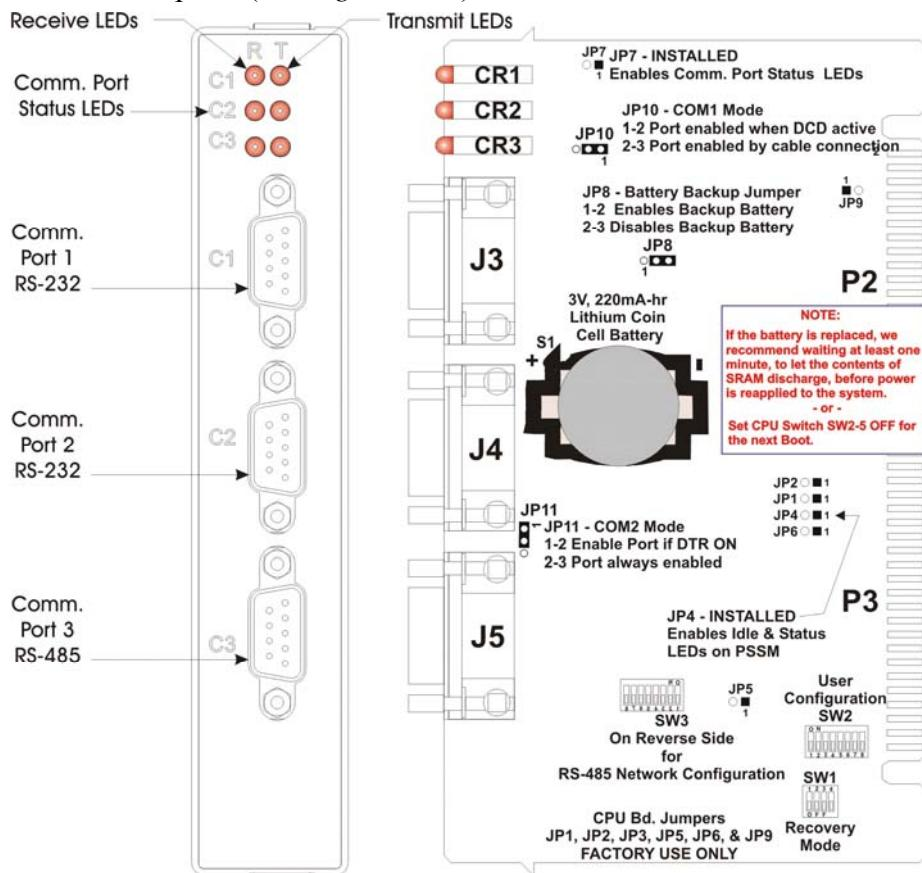
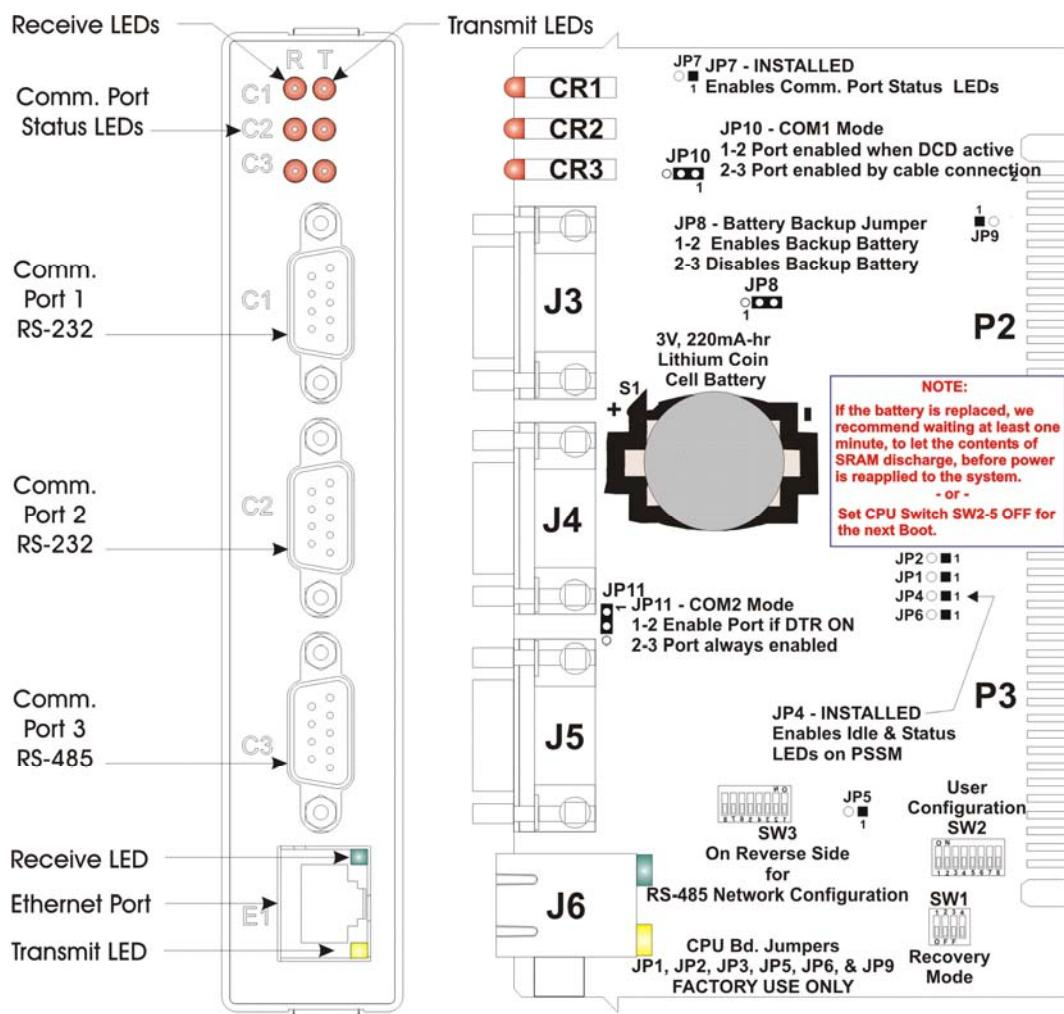
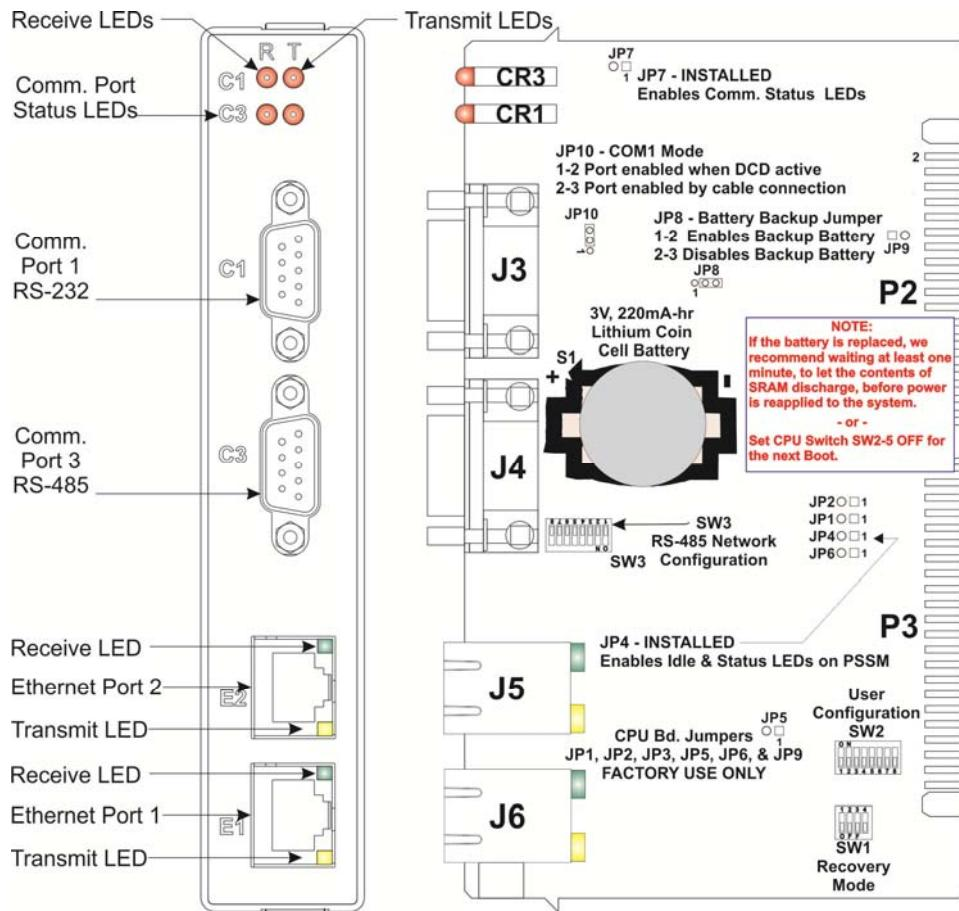

Figure 2-13. CPU Module with Three Serial Ports
Figure 2-14. CPU Module with Three Serial Ports and One Ethernet Port
Figure 2-15. CPU Module with Two Serial and Two Ethernet Ports
- CPU with two RS-232 serial ports, and one RS-485 serial port (see *Figure 2-13*)
- CPU with two RS-232 serial ports, one RS-485 serial port, and one Ethernet port (see *Figure 2-14*)
- CPU with one RS232 serial port, one RS-485 serial port, and two Ethernet ports (see *Figure 2-15*)
Each CPU module contains a number of jumpers (labeled with  $JP_n$ ) when  $n$  in the jumper number. See *Figure 2-13*, *Figure 2-14*, or *Figure 2-15*) to locate the jumpers.
Before you install the CPU module, you must determine the settings for three banks of DIP switches. Refer to *Figure 2-13*, *Figure 2-14*, or *Figure 2-15* for the location of the DIP switch banks on each CPU module. Refer to *Tables 2-3* through *2-5* for DIP switch setting values.
- If the CPU module has two RS-232 ports and one RS-485 port (as in *Figure 2-13*), the RS-232 ports are COM1 and COM2.
- If the CPU module has one RS-232 port and one RS-485 port (as in *Figure 2-15*), the RS-232 port is COM1.